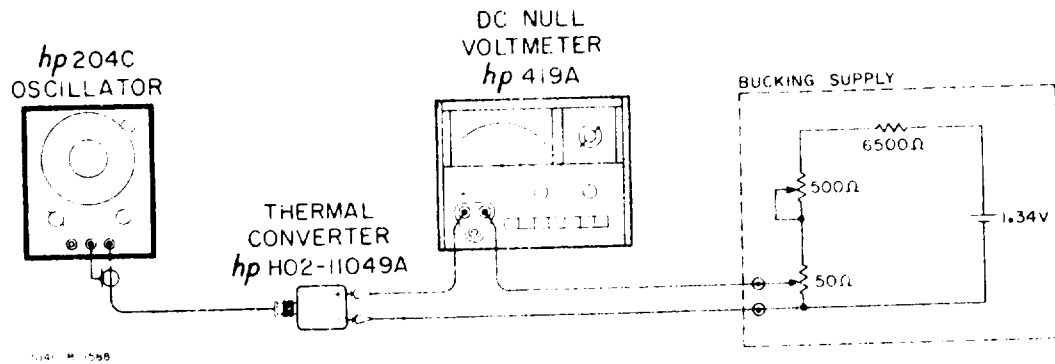

Figure 5-2. Flatness Check
- a. Connect the equipment as shown in Figure 5-2.